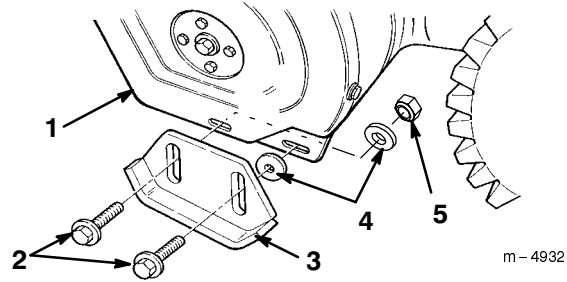

Figure 10
3. Remove the two flange bolts and the two flat washers that secure the ends of the scraper to the side plates (Fig. 10).
5. Insert a washer **between each skid and the side plate** (Fig. 10). Do not tighten the bolts.
7. Insert a washer and a locknut **behind (on the inside of) the side plate** (Fig. 10). Do not tighten the bolts.